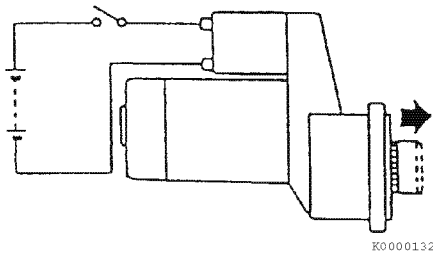

Figure 11-35
4. Turn the switch ON and measure the pinion moving distance L in the thrust direction (**Figure 11-35**). Perform this test within 10 seconds.